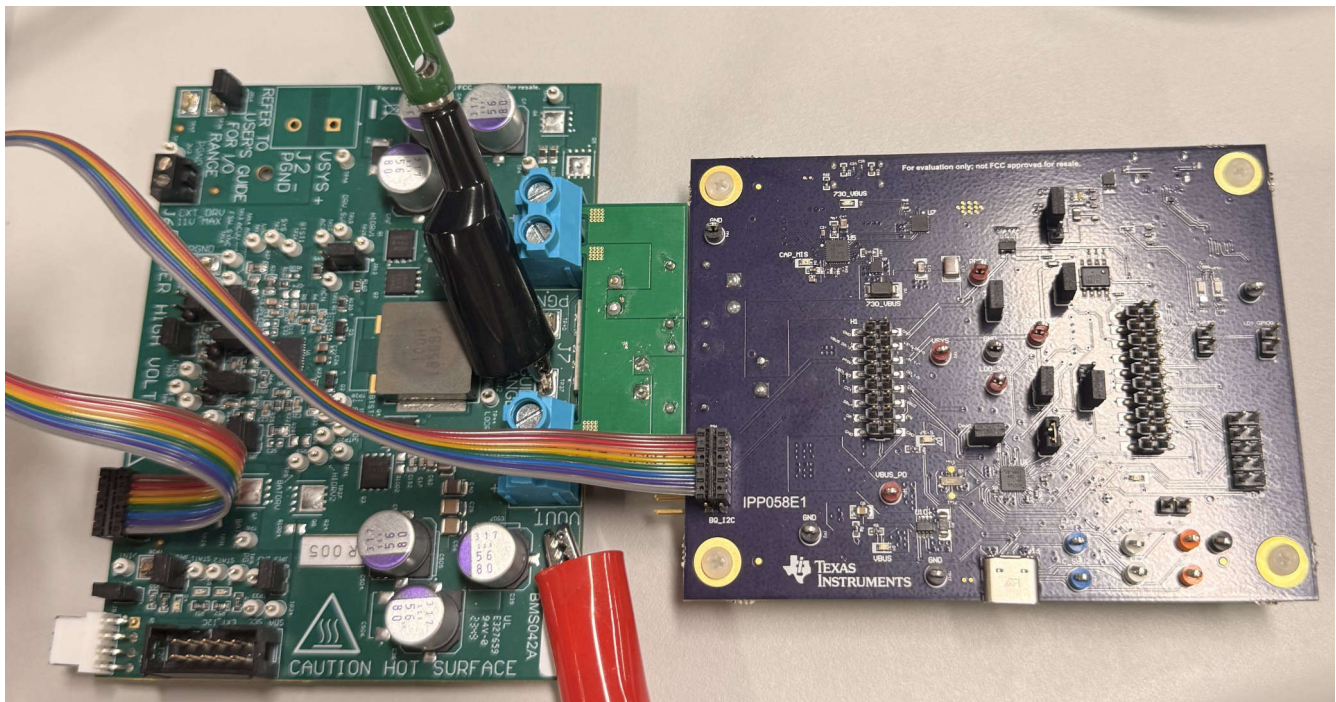

Figure 4-2. TPS25751AEVM and BQ25756(E)EVM Hardware Setup
5. Attach the ribbon cable to header J12 on the TPS25751AEVM as shown in Figure 4-2.